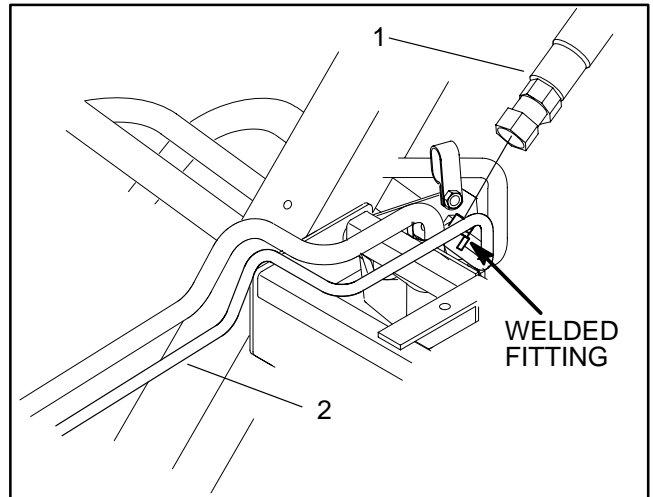
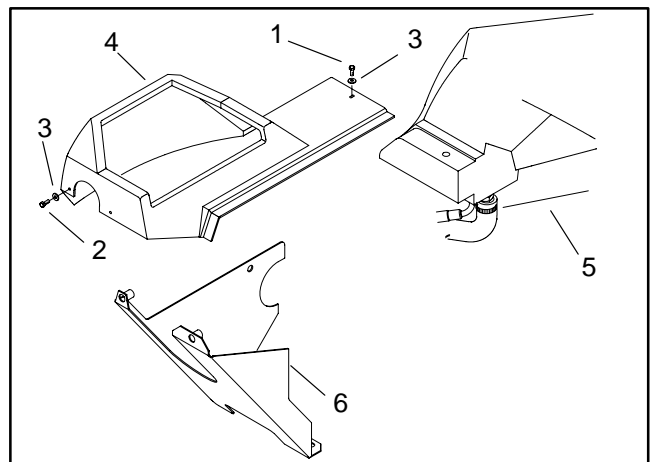

Figure 87
Figure 88
4. Disconnect hose assembly from the hydraulic fitting welded to the reel motor case drain tube located below the right side of the frame. Allow hose to drain to a suitable container (Fig. 87).
5. Disconnect formed hose (21) from hydraulic barb fitting (9). Allow hose to drain to a suitable container.
6. Remove cap screw and flat washer securing the console shroud to the hydraulic tank. Remove both cap screws and flat washers securing the console shroud to the lower panel (Fig. 88).
7. Remove three hex head screws and flat washers securing the mounting plate (11) to the frame. Two screws are located on the top of the plate at the front corners of the fuel tank. The third screw is in front of the castor fork and below the plate.
8. Tilt mounting plate (11) up by lifting at the rear of the machine. Prop up plate securely. Remove four cap screws (16) and flat washers (12) securing the hydraulic tank (6) to the mounting plate.
9. Remove hydraulic tank (6) from the mounting plate (11).
10. Hoses (31 and 32), hydraulic fittings (9,1, and 2), and O-rings (29, 27, and 25) may be removed from the hydraulic tank (6).
1. If removed from the hydraulic tank (6), install the following:
- A. O-ring (27), hydraulic barb fitting (1), and pump inlet hose (31).
- B. O-ring (25), hydraulic fitting (2), and hose assembly (32).
- C. O-ring (29) and hydraulic barb fitting (9).
2. Place antiseize lubricant into all four inserts at the bottom of the hydraulic tank (6). Position tank onto the mounting plate (11).
3. Secure hydraulic tank to the mounting plate with four cap screws (16) and flat washers (12). Torque cap screws from 30 to 60 in-lb (35 to 69 kg-cm).
4. Secure mounting plate (11) to the frame with three hex head screws and flat washers. Two screws go on the top of the plate at the front corners of the fuel tank. The third screw goes in front of the castor fork and below the plate.
5. Secure console shroud to the hydraulic tank with cap screw and flat washer, and to the lower panel with both cap screws and flat washers (Fig. 88).
6. Secure formed hose (21) to hydraulic barb fitting (9) with hose clamp (23).
7. Connect hose assembly to the hydraulic fitting welded to the reel motor case drain tube located below the right side of the frame (Fig. 87).